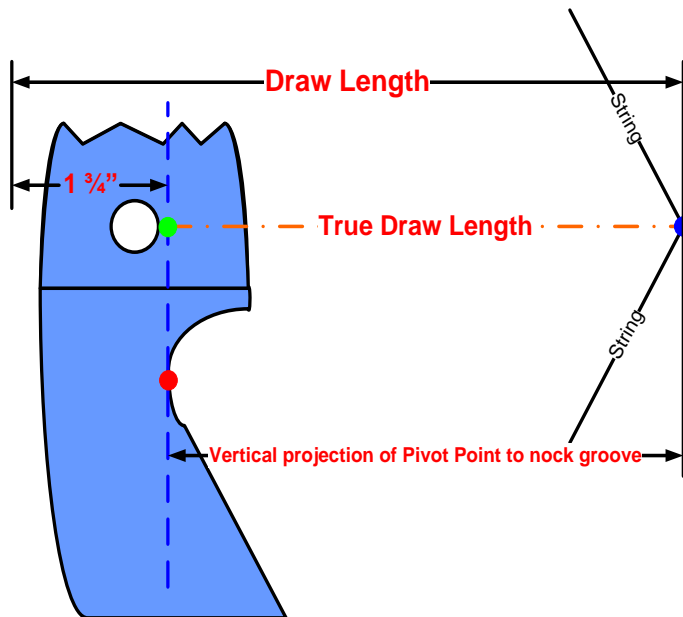

Figure 1 Draw Length Measurement Guide
* See Figure 1 below for **Draw Length** measurement guidance: **True Draw Length + 1 ¼"**
After the inspection is complete, a Revere Model 9363 load cell and TotalComp T500E indicator, adapted for use on a Hooter Shooter, are used to determine the peak draw weight, draw length (see Figure 1), Actual Let-Off and Effective Let-Off; brace height is measured to the nearest thousandth of an inch with a set of Mitutoyo Calipers.